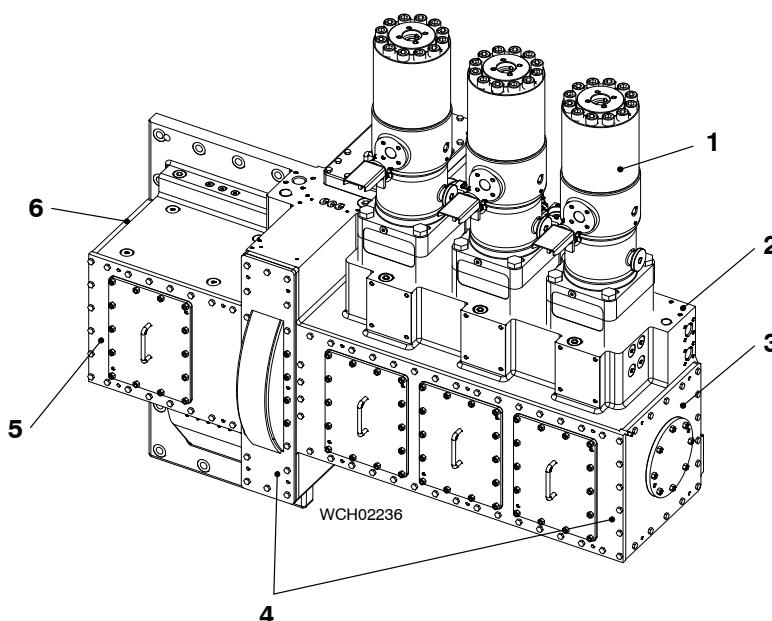

Fig. 6
- 5) If the fuel pumps (1, Fig. 6) were not removed, do step a). If the fuel pumps were removed, do step b).
- 7) Install the covers (3, 4, 5 and 6) to the housing (2).